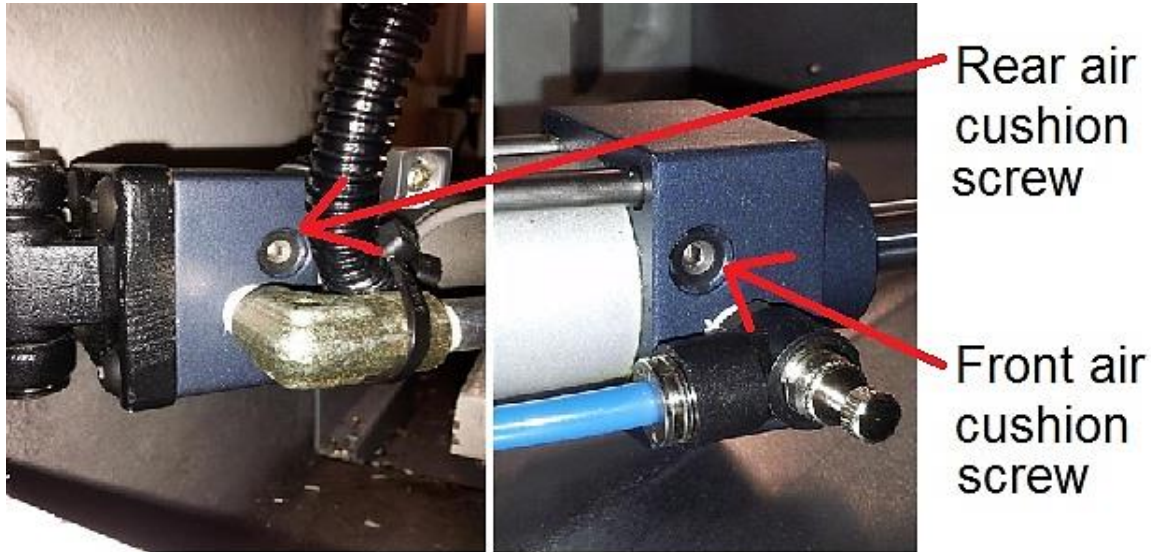

Figure 6.1.11.1
- **Front Internal Cushion Adjustment** - This air cushion controls the deceleration of the cylinder when it is within the last 1.5 inches of its full extension. It causes the cylinder to slow down gradually near the end of the extend stroke. See figure 6.1.11.1a.
- **Initial Adjustment** - Close the cushion all the way down, and open it 1/4 turn. Figure 6.1.11.1 shows both cushions on the ATC cylinder.